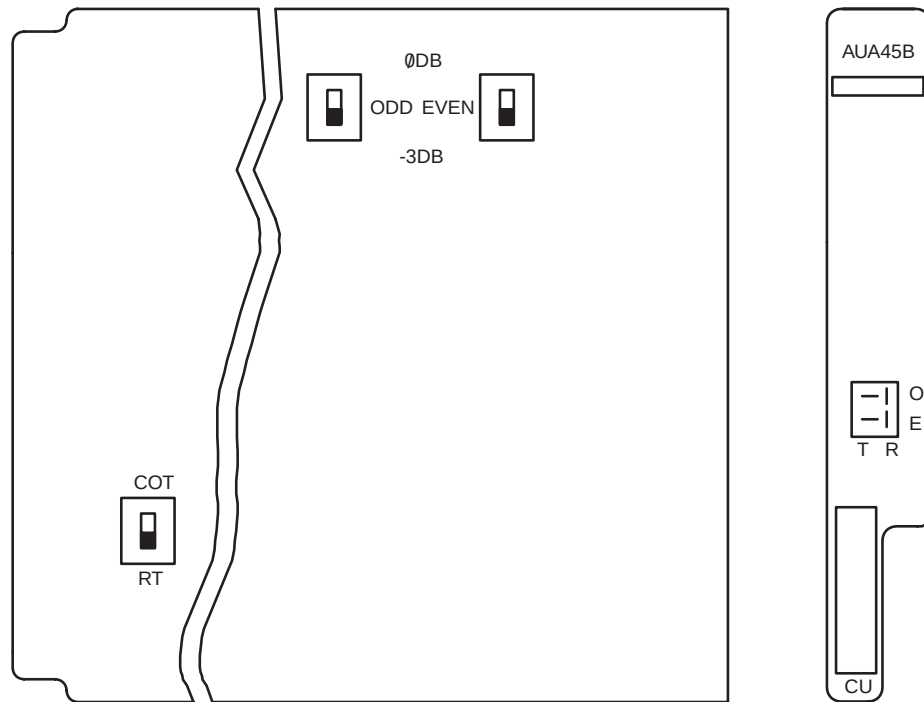

Figure 2 – AUA45 Dual Ringing Repeater Channel Unit Option Switches
5. From records on the work order, set the **AUA45()** option switch **COT/RT** (Figure 2) to the **RT** position.
From records on the work order, set the **AUA45()** channel unit option switch **ODD** (Figure 2) to **0DB** or **-3DB**. Set option switch **EVEN** (Figure 2) to **0DB** or **-3DB**.